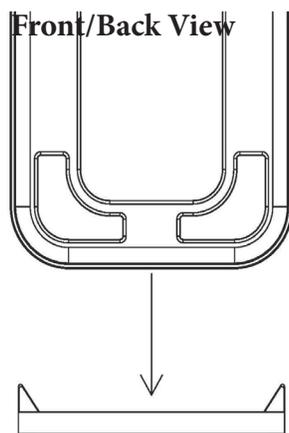

Figure 4.1
1. When installing multiple tanks with the intention of using a common fill and/or supply line, all the tanks must be the same model, at the same height, level and plumb. Different models cannot be manifolded together without a risk of unequal draining or filling. The tanks must be the same distance from the wall or other straight reference line to ensure that the piping and tees are square to each other so that they seal properly (see Fig. 4.1 below).